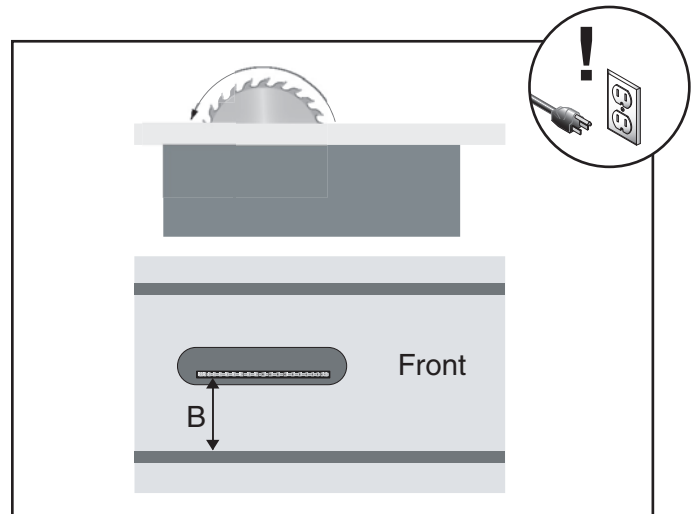

Figure 60. 90° blade parallelism measurement.
4. Rotate the blade 180° and measure the distance (B) between the miter slot and the back of the blade as shown in **Figure 60**.